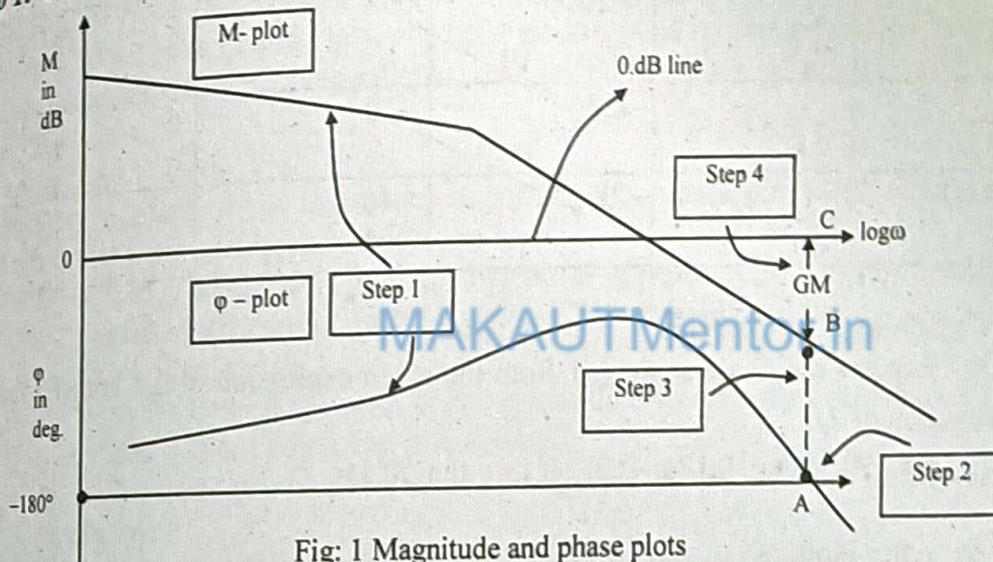

Fig. 1 Magnitude and phase plots
Step 1: First obtain the Magnitude and Phase plots (Fig. 1)